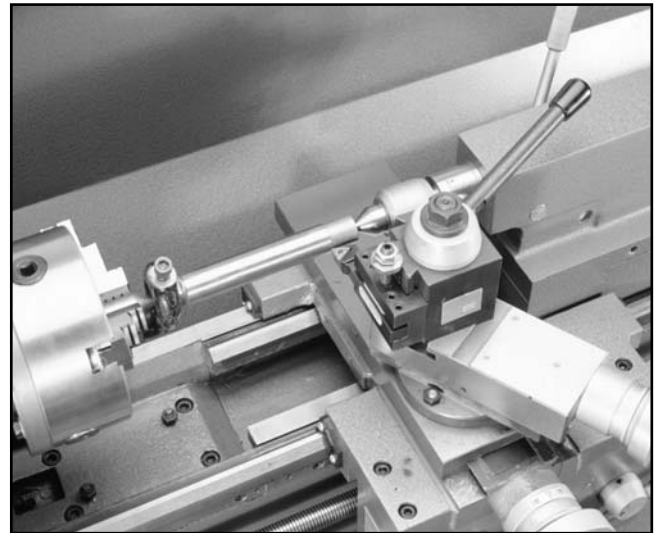

Figure 29. Bar stock mounted on centers.
4. Attach a lathe dog to the bar stock and mount it between the centers. **See Figure 29.**